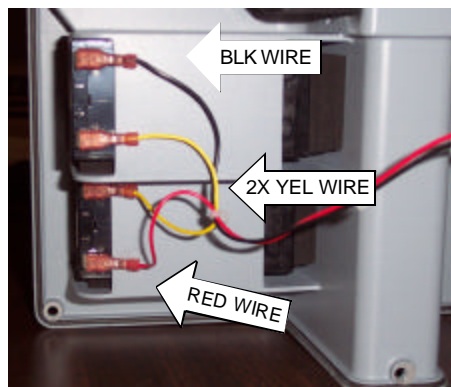

Figure 2: Attach lugs as shown;
1. Reinstall 'battery to Daughter PCB' Cable lugs onto batteries. (Note the proper orientation of the lugs.) Figure 2.